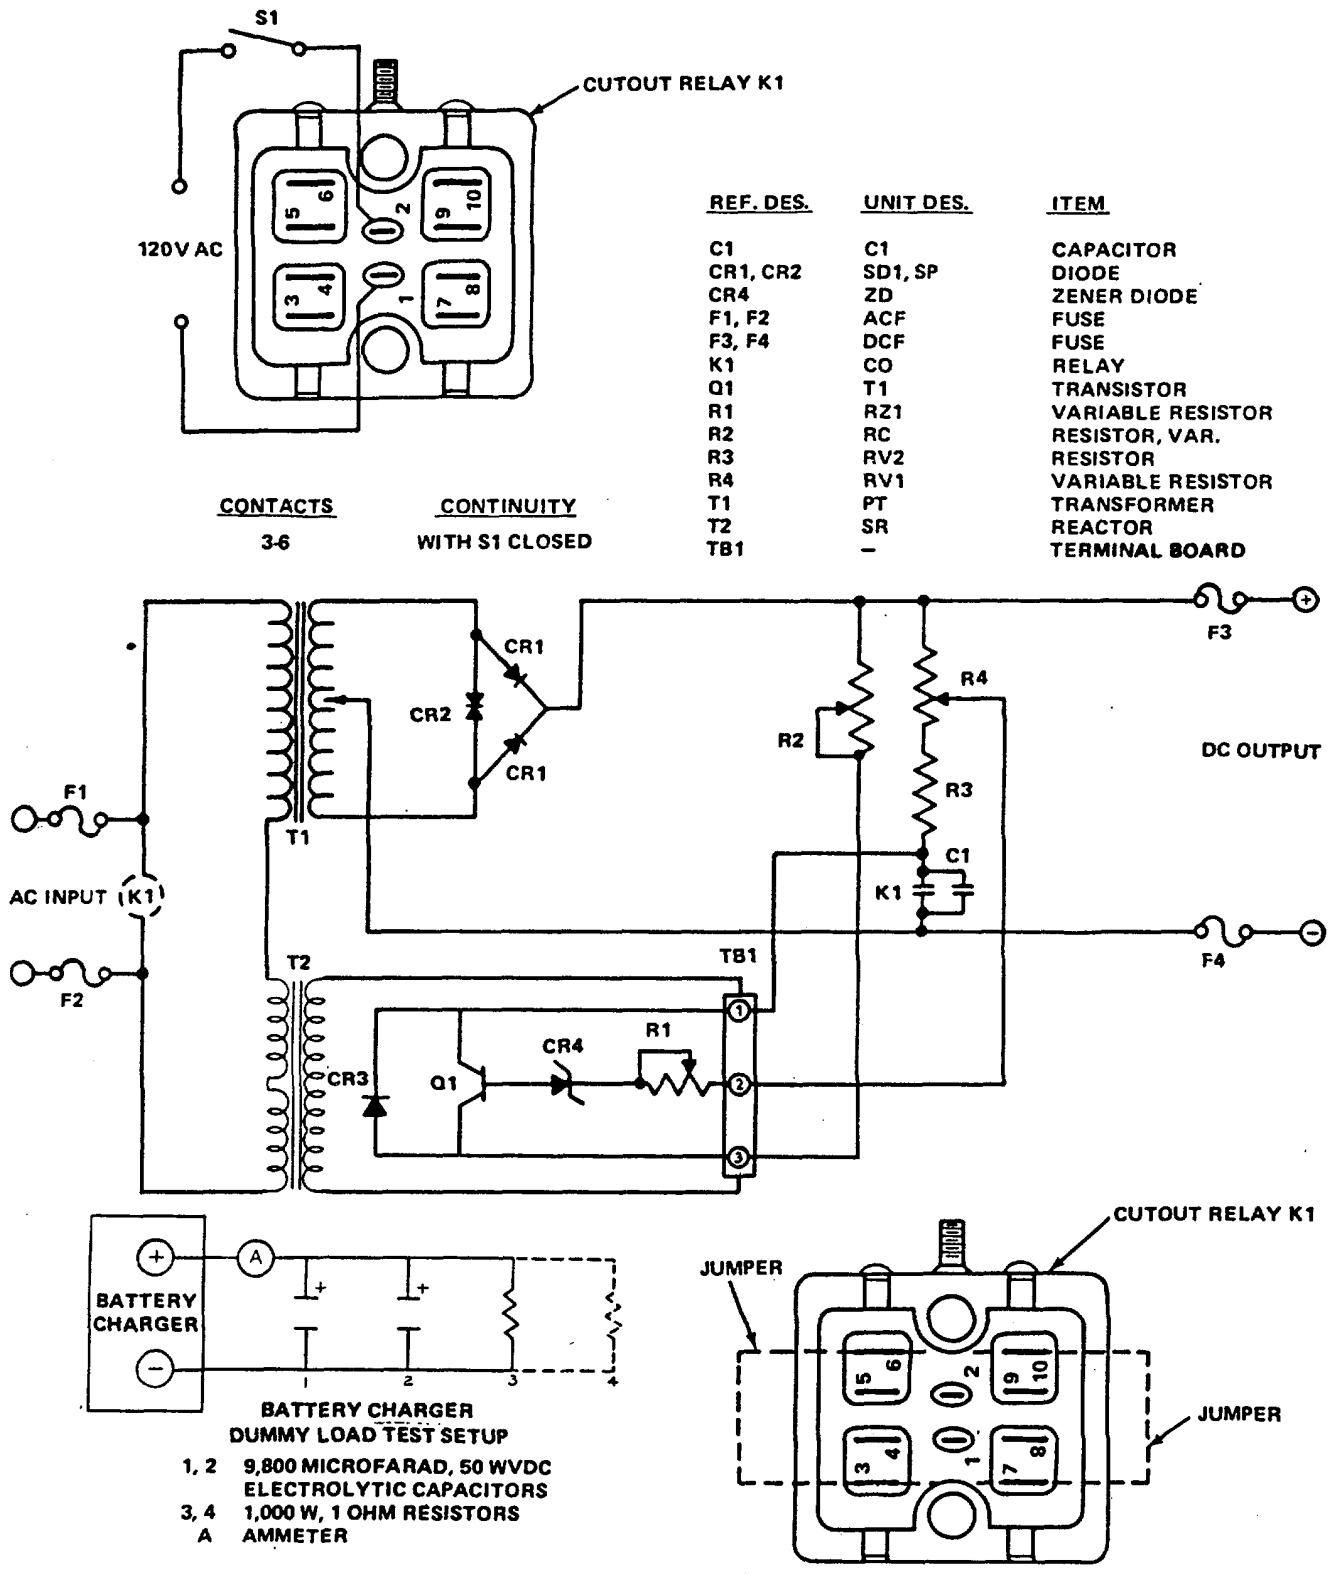
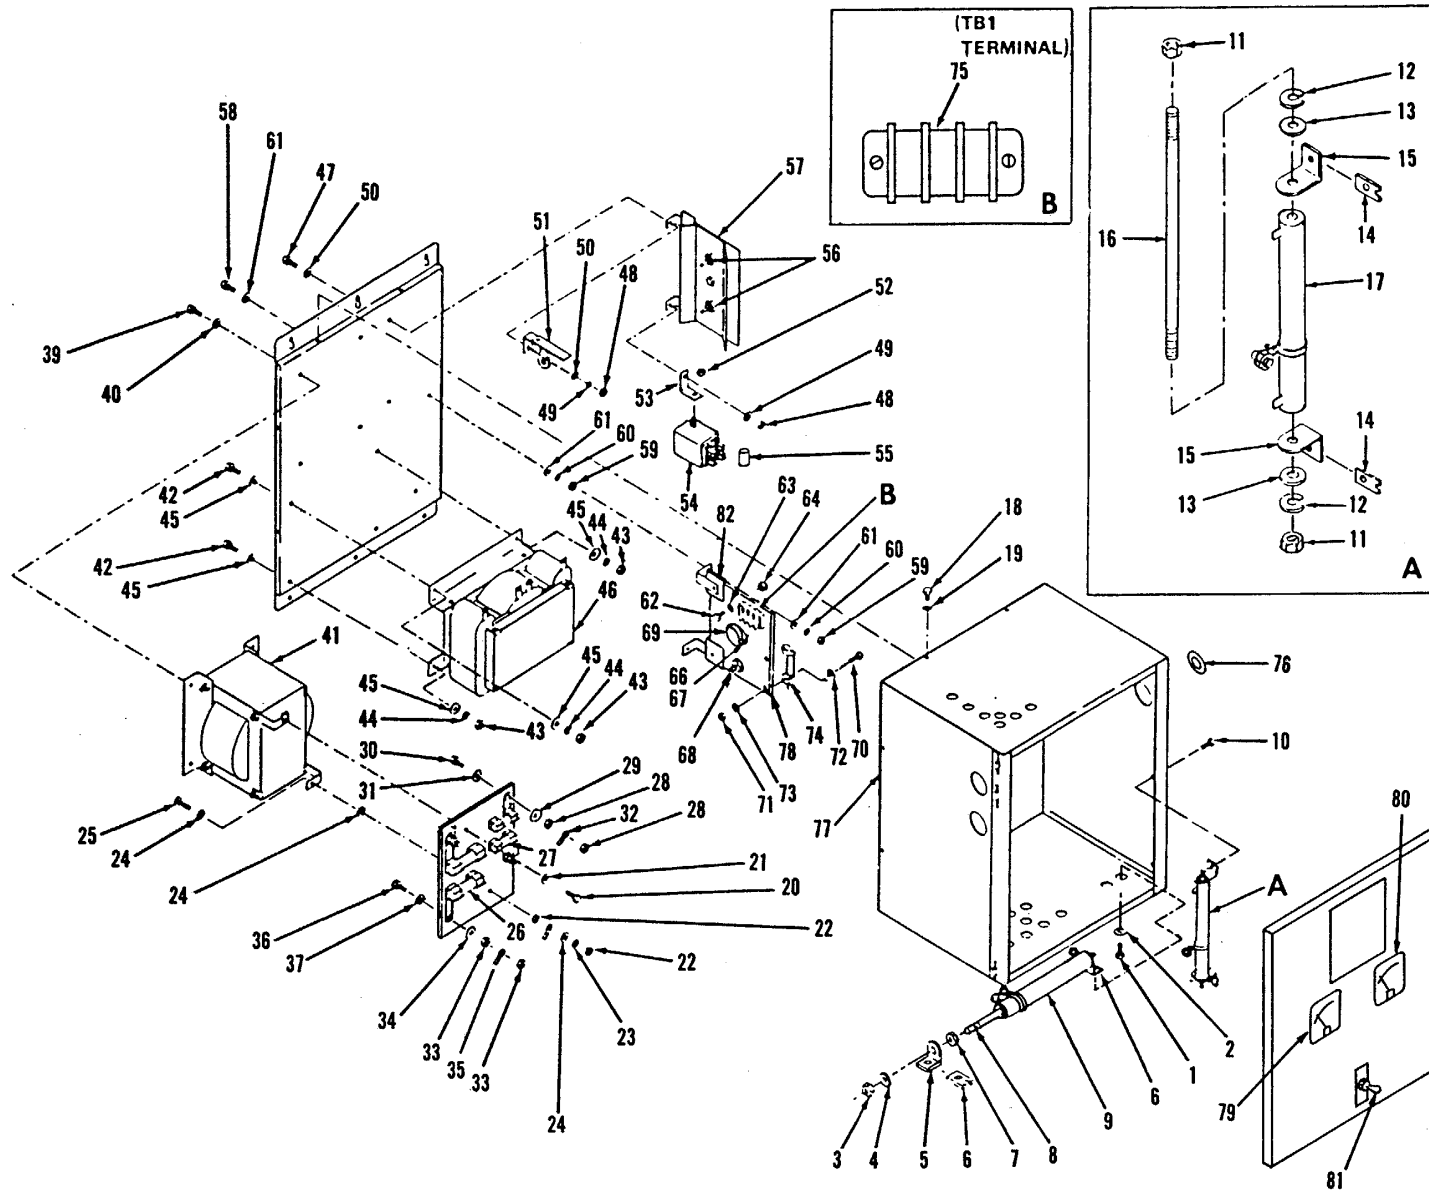

Figure 4-3. Battery Charger Schematic
Figure 4-4. Battery Charger, Exploded View
4-9. TESTING. (See figure 4-3) The ground test may be performed without removing the battery charger from the set. Other tests are bench test procedures.
- (1) Test silicon diodes (CR1 and CR2) as follows:
- (2) Test zener diode (CR4) as follows (see figure 4-3):
c. Cutout Relay. Test the cutout relay (54, figure 4-4) as follows. See detail in figure 4-3.
- (1) Connect a 120V AC source with a SPST switch (S1) as shown.
- (2) With S1 closed, using an ohmmeter, check for continuity between contacts 3 and 6.
- (3) Open switch and disconnect 120V AC.
d. Transistor Control Circuit. (See figures 4-3 and 4-4.)
- (1) With power disconnect from battery charger, remove fuse F3. Connect a DC ammeter (0 to 50 amps) across fuse holder.
- (2) Connect 120V AC input power to battery charger and record ammeter reading. Remove input power.
- (3) Remove two wires from T2 (46, figure 4-4) and Q1 (68) connected to terminal 1 of TB1 (65).
- (4) Temporarily connect these two wires together using a jumper.
- (5) Connect 120V AC input power to battery charger.
- (6) Record ammeter reading. If the reading is higher than reading recorded in step (2), the transistor control circuit may be defective. Check CR4 (69), (paragraph b(2), above) and check for open resistor R1 (74). If CR4 and R1 are not defective, replace transistor Q1 (68).
- (7) Remove ammeter from fuse
- (1) Connect input of battery charger to 120V AC and output to two capacitors (1 and 2) and one resistor (3) in parallel (see figure 4-3).
- (2) Connect an ammeter as shown. Ammeter reading must be 24 amps.
- (3) Connect a second resistor (4) in parallel.
- (4) Connect ammeter as shown. Ammeter reading must be 24 amps.
- (5) If battery charger does not provide correct amperage, it is defective and must be repaired or replaced.
a. Adjustment of Variable Resistors. (See figure 4-3.) In the event that R1, R2, or R4 variable resistors are found to be defective, and are replaced, readjust resistors in accordance with the following procedure:
- (1) Variable resistor R2 (9, figure 4-4).
- (2) Variable resistor R4 (17, figure 4-4).
- (3) Variable resistor R1 (74, figure 4-4).
b. Disassembly. Disassemble the battery charger as follows (see figure 4-4):
Legend for Fig. 4-4